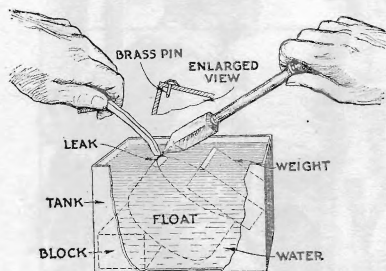

Fig. 1. Solder carburetor or vacuum tank floats in this way to make a tight seal
**W**HEN you attempt to solder up a leak in a carburetor or vacuum tank float, the heat of the iron causes the air inside the float to expand. The air pressure produced then forces bubbles of air through the hole you are trying to solder, making it very difficult to seal the hole. By immersing the float in a vessel full of water as shown in Fig. 1, this difficulty can be overcome. The water keeps the metal of the tank from heating up to any great extent, except at the point where the soldering iron is applied.